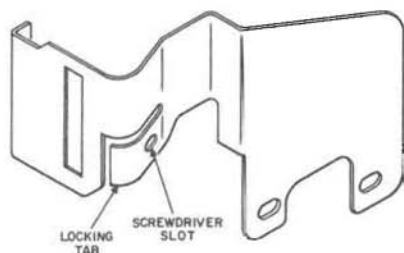

Fig. 25—P-23F361 Entrance Stop
- (a) The P-23F361 entrance stop (Fig. 25) is installed on the chute to minimize coin chute stuffing. When the coin release lever is operated, the entrance stop moves sideways and closes the coin slot.
- (b) On later production entrance stops, a prefabricated locking tab arrangement (Fig. 25) can be bent with a screwdriver, by authorized personnel, to hold the upper plate assembly off normal. This will prevent customer coin deposits in newly installed coin telephone sets awaiting initial service connection, or those that are out of service which require further maintenance or repair.
- (1) Remove coin chute totalizer assembly.
- (2) Remove and retain two No. 6-32 by 5/32 RHM screws (P-218068) which secure the old entrance stop. Discard old entrance stop.
- (3) Install the new entrance stop in the same location using the hardware retained.